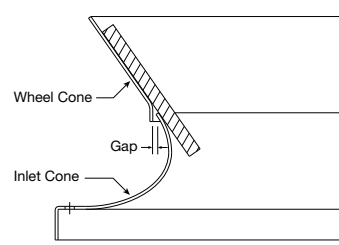

Fig. 10
3. Ensure proper wheel settings for radial gap and alignment. See Fig. 10 on page 4.
3. Rotate the fan wheel by hand and assure no parts are rubbing. The wheel should rotate freely and be aligned as shown in Fig. 10. Wheel position is preset and the unit is tested at the factory. Movement may occur during shipment, and realignment may be necessary. Nominal Gap dimension is equal to 1/8 inch.
**Alignment\*** - If necessary, adjust wheel position by loosening the wheel hub from the fan shaft so that a straight edge held tight to the wheel cone just touches the inlet cone. Refer to Fig. 10.